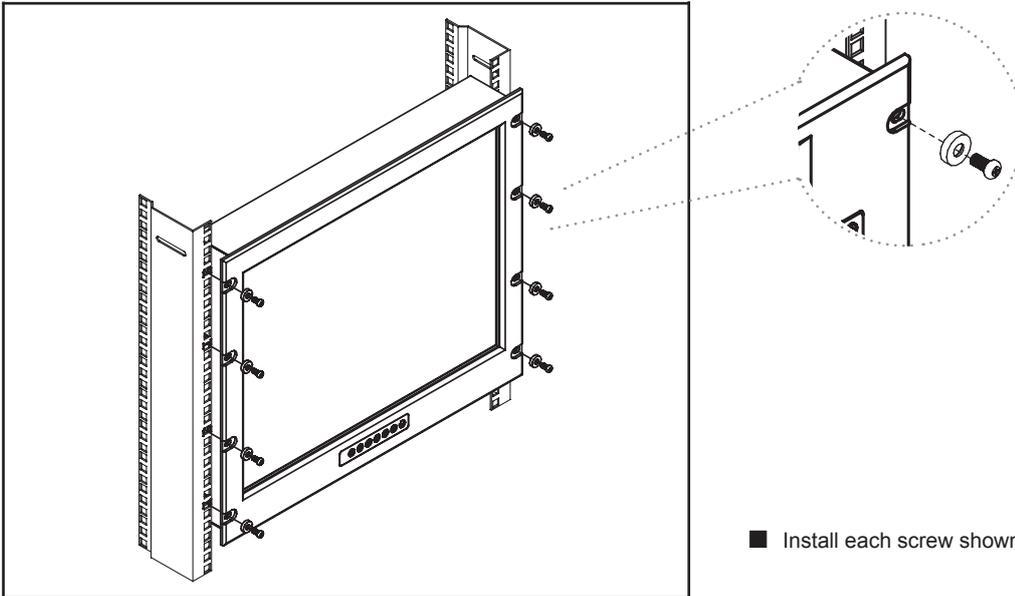

Figure 12.
■ Install each screw shown in Figure 12.